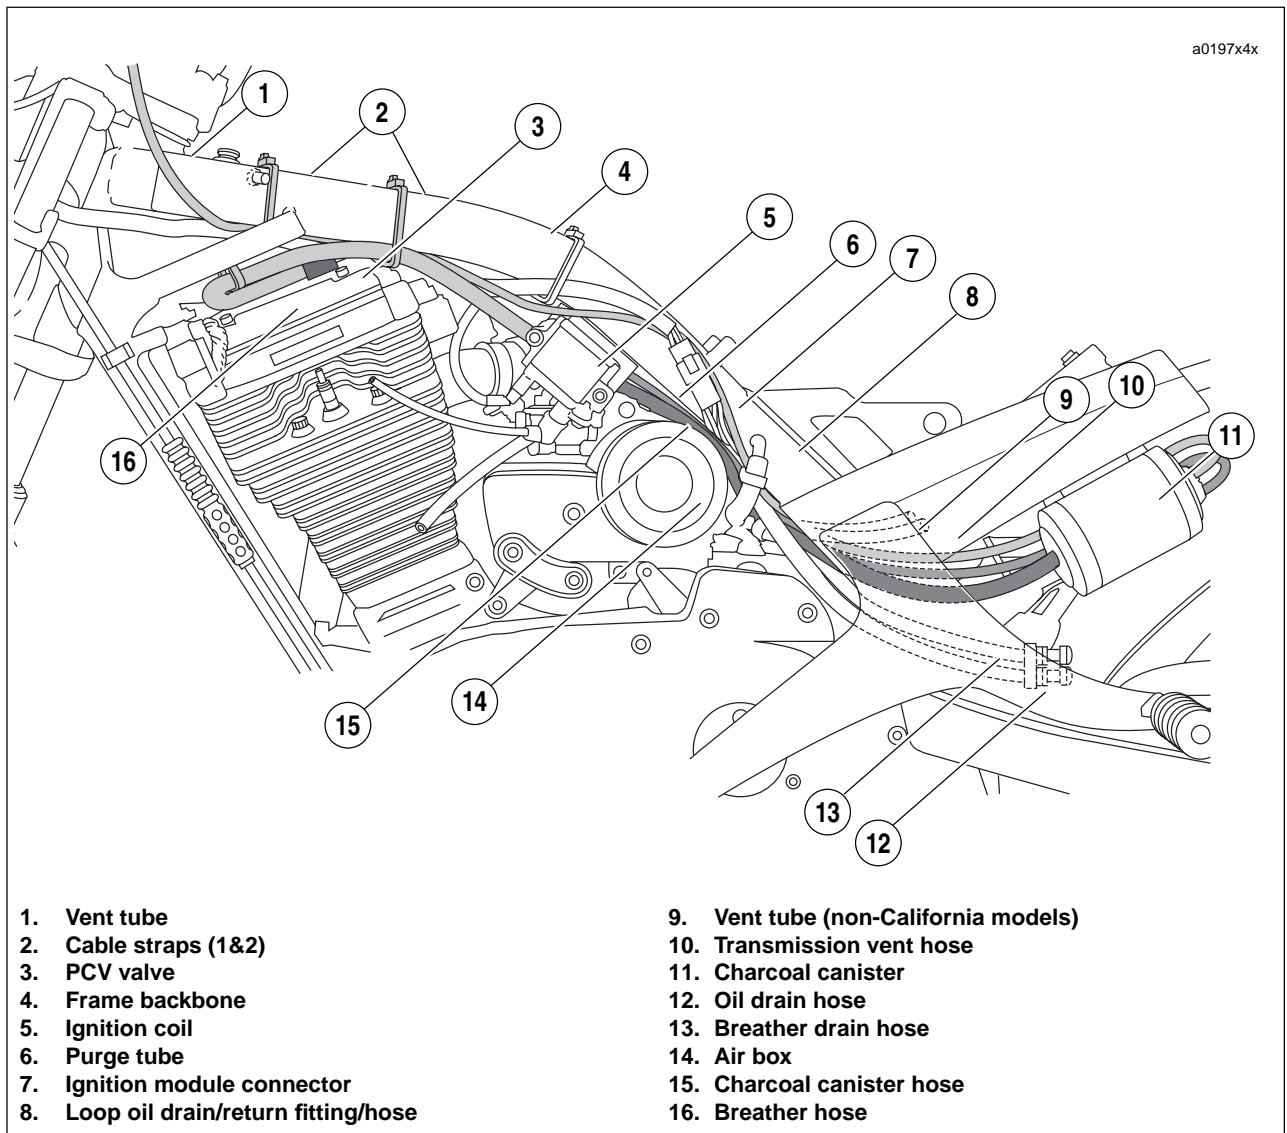

Figure 4-26. Hose Routing (Left Side View)
**Crankcase Breather Hose:** See Figure 4-26. The crankcase breather hose runs forward from the PCV valve at the top of the rocker cover through a cable strap loosely installed in two lateral holes in the front engine mounting bracket (just rear of the steering head). After passing through the cable strap, the hose loops rearward following the bottom left side of the frame backbone, where it is captured in yet another cable strap loosely installed around the middle of the backbone (the second of three equally spaced cable straps moving front to rear). Continuing rearward, the hose passes toward the right side of the vehicle just in front of the ignition coil where it mates with a 3-way connector positioned inboard of the carburetor.
See Figure 4-26. The vent tube, which is cable strapped to the nozzle of the vent tube fitting at the front of the fuel cap flange, runs downward on the left side of the fuel tank and turns rearward passing through a cable strap loosely installed around the front of the frame backbone (the first of three equally spaced cable straps moving front to rear). From this point, the vent tube follows the main harness through a large hole in the front engine mounting bracket (just rear of the two lateral holes described earlier). Continuing rearward, the tube follows the bottom left side of the frame backbone running inboard of the crankcase breather hose. Moving outboard of the breather